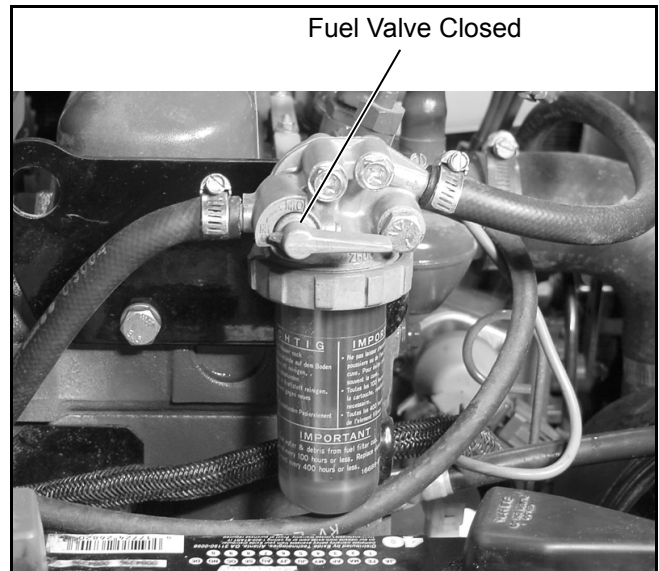

Figure 3D-11. Closed Fuel Valve
10. Open the fuel filter valve (Figure 3D-11).